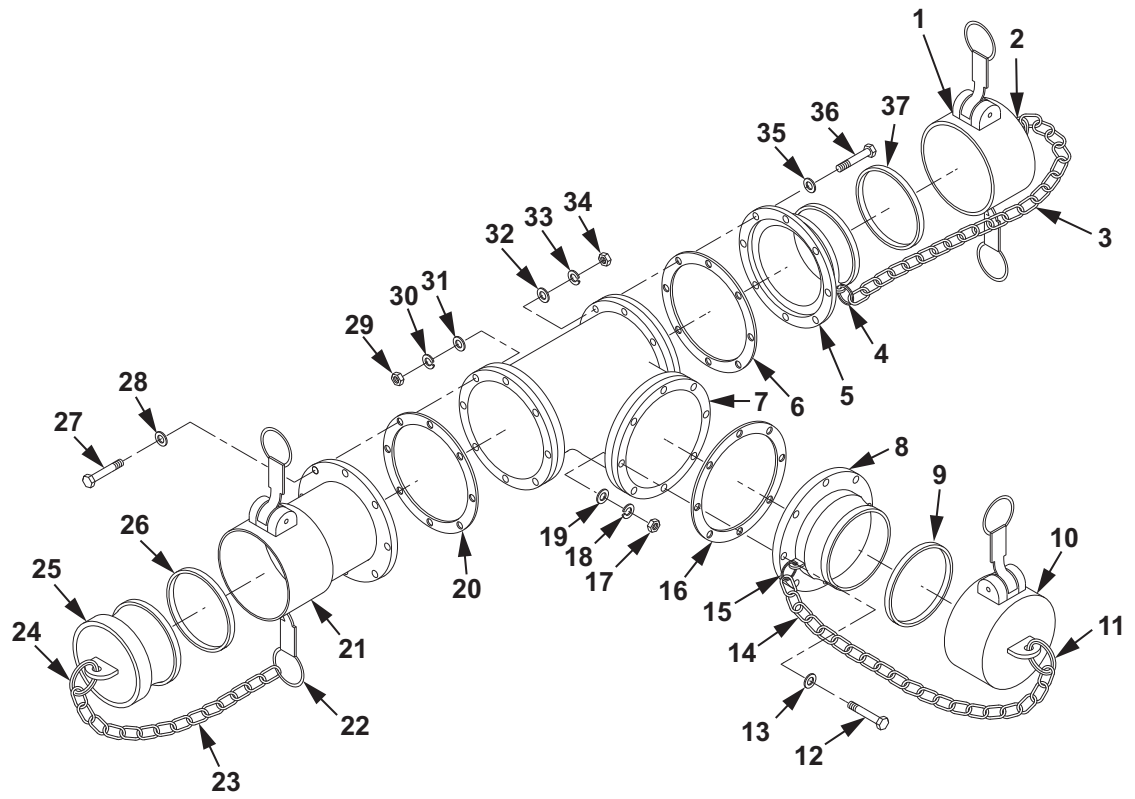

Figure 1. 4 In. Female X 4 In. Male X 4 In. Male Tee Disassembly.
7. Remove eight nuts (Figure 1, Item 17), lockwashers (Figure 1, Item 18), washers (Figure 1, Item 19), screws (Figure 1, Item 12), washers (Figure 1, Item 13), coupling (Figure 1, Item 8) and gasket (Figure 1, Item 16) from tee (Figure 1, Item 7).
8. Discard gasket (Figure 1, Item 16) and lockwashers (Figure 1, Item 18).
9. Remove eight nuts (Figure 1, Item 29), lockwashers (Figure 1, Item 30), washers (Figure 1, Item 31), screws (Figure 1, Item 27), washers (Figure 1, Item 28), coupling (Figure 1, Item 21) and gasket (Figure 1, Item 20) from tee (Figure 1, Item 7).
10. Discard gasket (Figure 1, Item 20) and lockwashers (Figure 1, Item 30).
11. Remove split ring (Figure 1, Item 2) from quick disconnect dust cap (Figure 1, Item 1).
12. Remove split ring (Figure 1, Item 2) from chain (Figure 1, Item 3).
13. Remove split ring (Figure 1, Item 4) from chain (Figure 1, Item 3).
14. Remove split ring (Figure 1, Item 4) from coupling (Figure 1, Item 5).
15. Remove split ring (Figure 1, Item 11) from quick disconnect dust cap (Figure 1, Item 10).
16. Remove split ring (Figure 1, Item 11) from chain (Figure 1, Item 14).
17. Remove split ring (Figure 1, Item 15) from coupling (Figure 1, Item 8).
18. Remove split ring (Figure 1, Item 15) from chain (Figure 1, Item 14).
19. Remove split ring (Figure 1, Item 24) from quick disconnect dust plug (Figure 1, Item 25).
20. Remove split ring (Figure 1, Item 24) from chain (Figure 1, Item 23).
21. Remove split ring (Figure 1, Item 22) from coupling (Figure 1, Item 21).
22. Remove split ring (Figure 1, Item 22) from chain (Figure 1, Item 25).